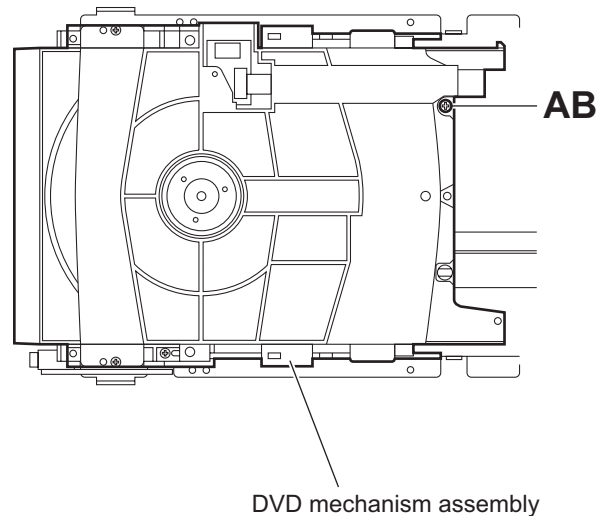

Fig.22
- (5) Remove the screw **AB** attaching the DVD mechanism assembly. (See Fig.22.)
- (6) Take out the DVD mechanism assembly from the main body. (See Fig.22.)